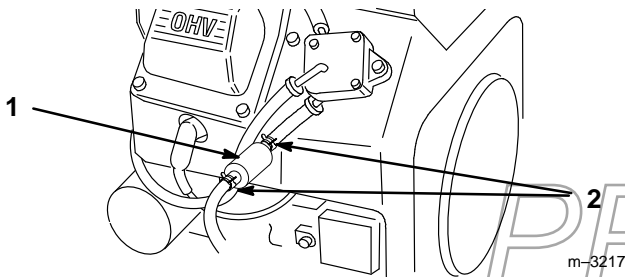

Figure 21
4. Squeeze the ends of the hose clamps together and slide them away from the filter (Fig. 21).